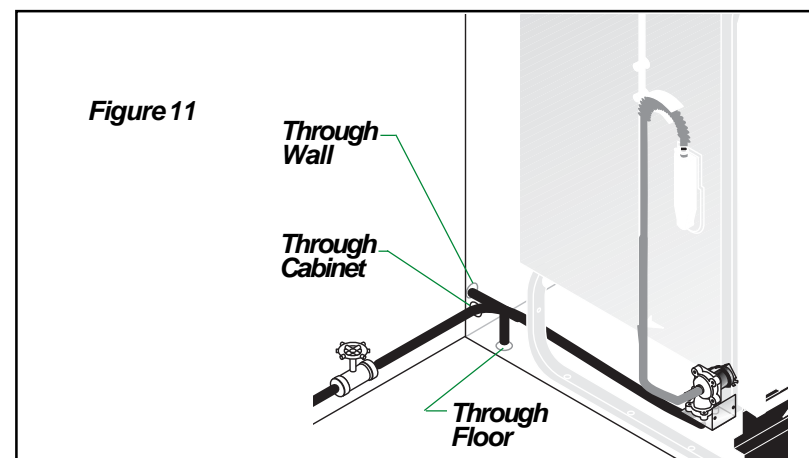

Figure 11
2. Route water line to water inlet valve as shown in Figure 11.
5. If water inlet valve clogs, make sure water supply is off. If using a 3/8" NPT valve, remove four (4) screws at inlet end of valve and clean filter screen. If using 3/4" hose thread fitting simply clean filter screen.